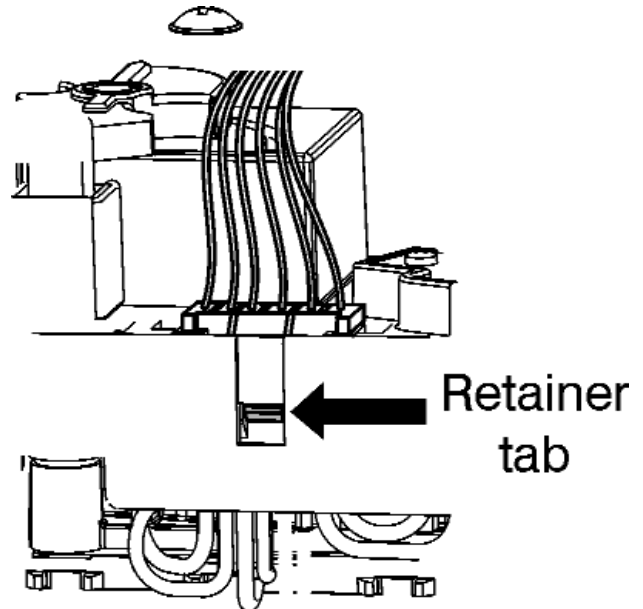

Figure 36. Wiring block removal
8. Remove the wiring block from the front of the valve. To do this press the retainer tab on the base of the valve (See figure 36) whilst gently pulling on the leads.